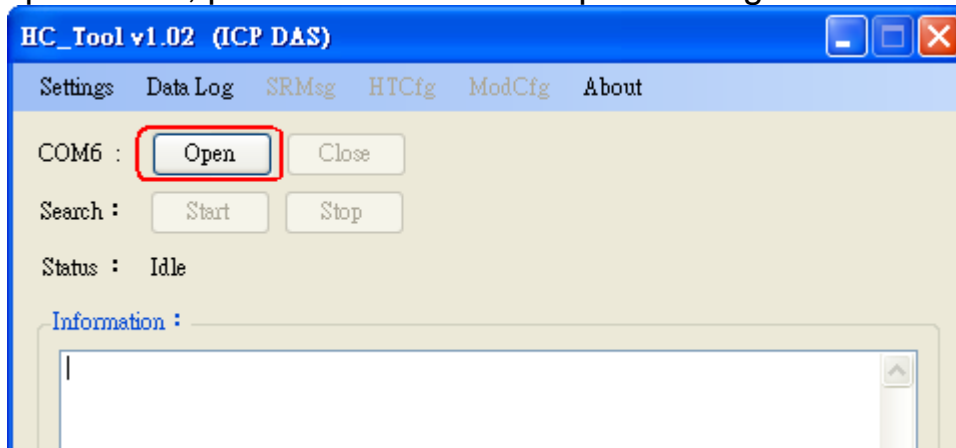

Figure 4-7: Click “Open” button
- (1) Click “**Open**” button to open the com port of PC like Figure 4-7. If com port open failed, please check the com port setting.